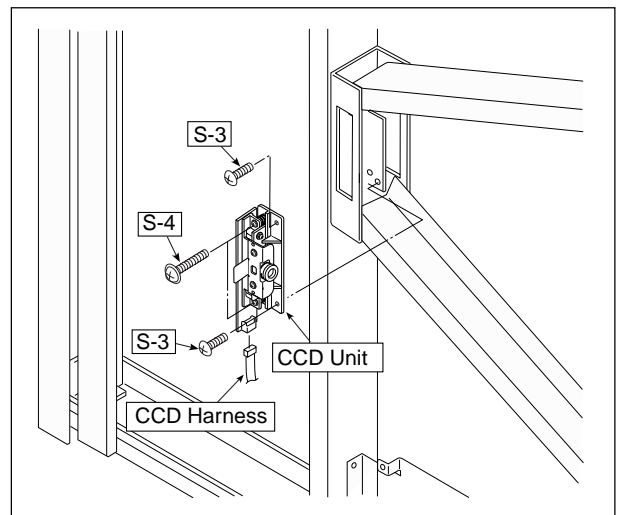

Fig. 5
- 3) Remove the CCD Unit. (See Fig. 5.)
1. Remove the "S-3" screws shown in Fig. 5.
2. Remove the "S-4" screws shown in Fig. 5 and then remove the CCD Unit.